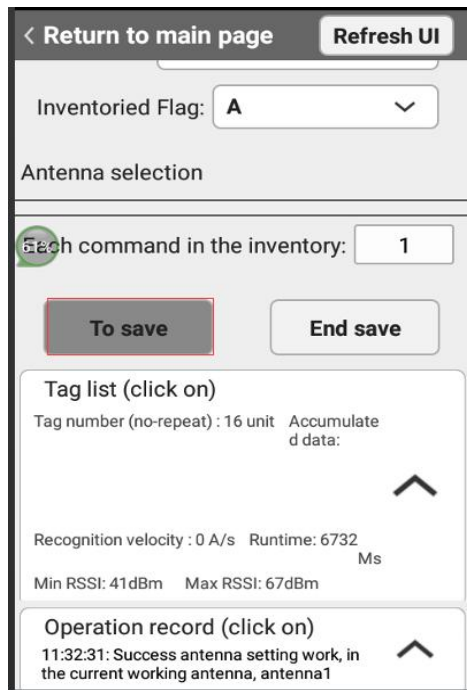

Figure 3.0
**1.2** Click the icon button ‘To save’ to start read RFID tags as figure 3.0.
**1.3** Click the icon button ‘End save’ to stop read RFID tags as figure 3.0.